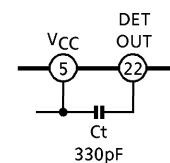

Fig.3 Countermeasures for AM tweets
It is necessary to connect the capacitor C_t (about $330pF$) between V_{CC} terminal (pin⑤) and DET OUT (pin㉒), in case that AM tweets occurs by pattern layout. (Fig.3)